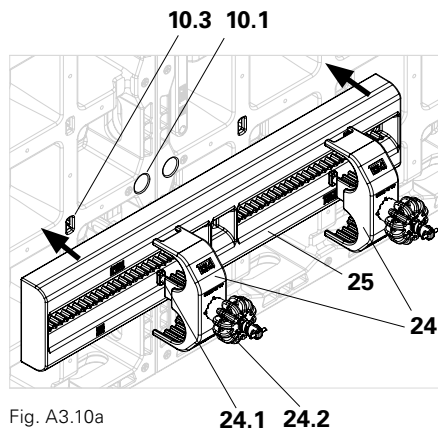

Fig. A3.10a
1. Position two DUO tube holders (**24**) onto a DUO 62 compensation waler (**25**). (Fig. A3.10a)
3. Tighten the DUO tube holder (**24**) with the DW 15 grip (**24.2**). (Fig. A3.10a)